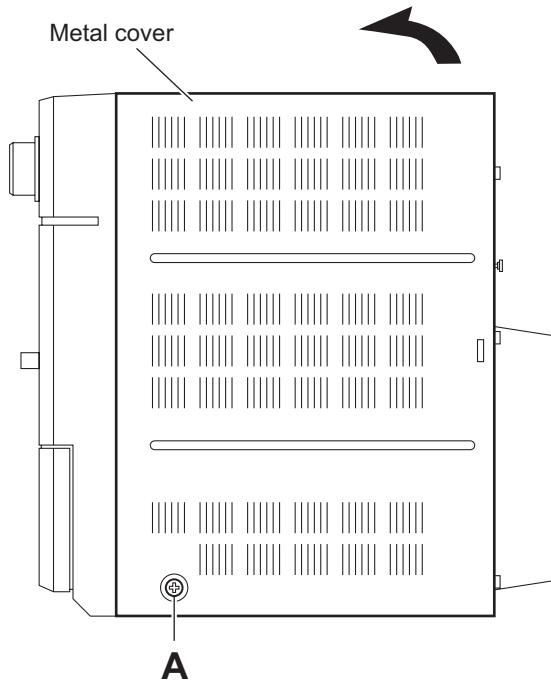

Fig.1
3.1.1 Removing the metal cover (See Figs.1 to 3)
- (1) From the both sides of the main body, remove the two screws **A** attaching the metal cover. (See Figs.1 and 2.)
- (3) Remove the metal cover from the main body while lifting the rear section of the metal cover in the direction of the arrow. (See Figs.1 and 2.)